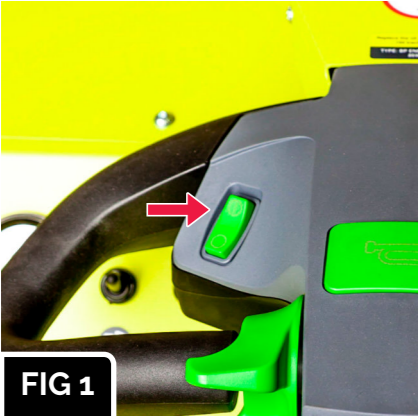

FIG 1
- Complete each of the following tests (fig 1 to fig 14) to ensure each function and switch of the steering system and dashboard are working correctly.